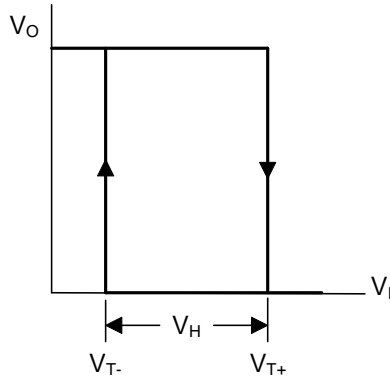
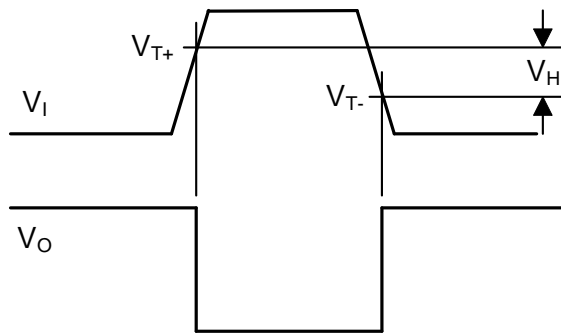

Figure 8-5 Transfer characteristic
Figure 8-6 Waveforms showing definition of  $V_{T+}$  and  $V_{T-}$  (between limits at 30% and 70%) and  $V_H$
- (1) Input on terminals 1, 5, 8, 12 or 2, 6, 9, 13; other inputs to VDD.
- (2) Input on terminals 1 and 2, 5 and 6, 8 and 9 or 12 and 13; other inputs to VDD.
- (3) See Figure 8-5 and Figure 8-6.